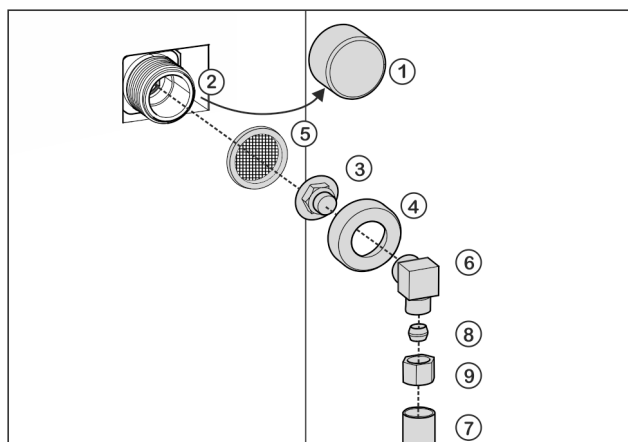

Fig. 22
- Remove cap Fig. 22 (1) from solenoid valve Fig. 22 (2).
- Insert coupler Fig. 22 (3) into union nut Fig. 22 (4).
- Insert the filter *Fig. 22 (5)* with the recess pointing down towards the coupler *Fig. 22 (3)*.
- Screw the union nut *Fig. 22 (4)* by hand onto the thread of the solenoid valve *Fig. 22 (2)* until it is firmly in place.
- Screw on angle piece *Fig. 22 (6)*.
- Connect the water pipe *Fig. 22 (7)* (e. g. 1/4" OD copper pipe) with the clamp ring *Fig. 22 (8)* and nut *Fig. 22 (9)* to the elbow connector *Fig. 22 (6)*.
- If necessary: Fasten the water pipe *Fig. 22 (7)* to the housing with the guide clip.
- Put angle piece *Fig. 22 (6)* to one side.
- Connect the water pipe *Fig. 22 (7)* (e. g. 1/4" OD copper pipe) with the clamp ring *Fig. 22 (8)* and nut *Fig. 22 (9)* to the coupler *Fig. 22 (3)*.